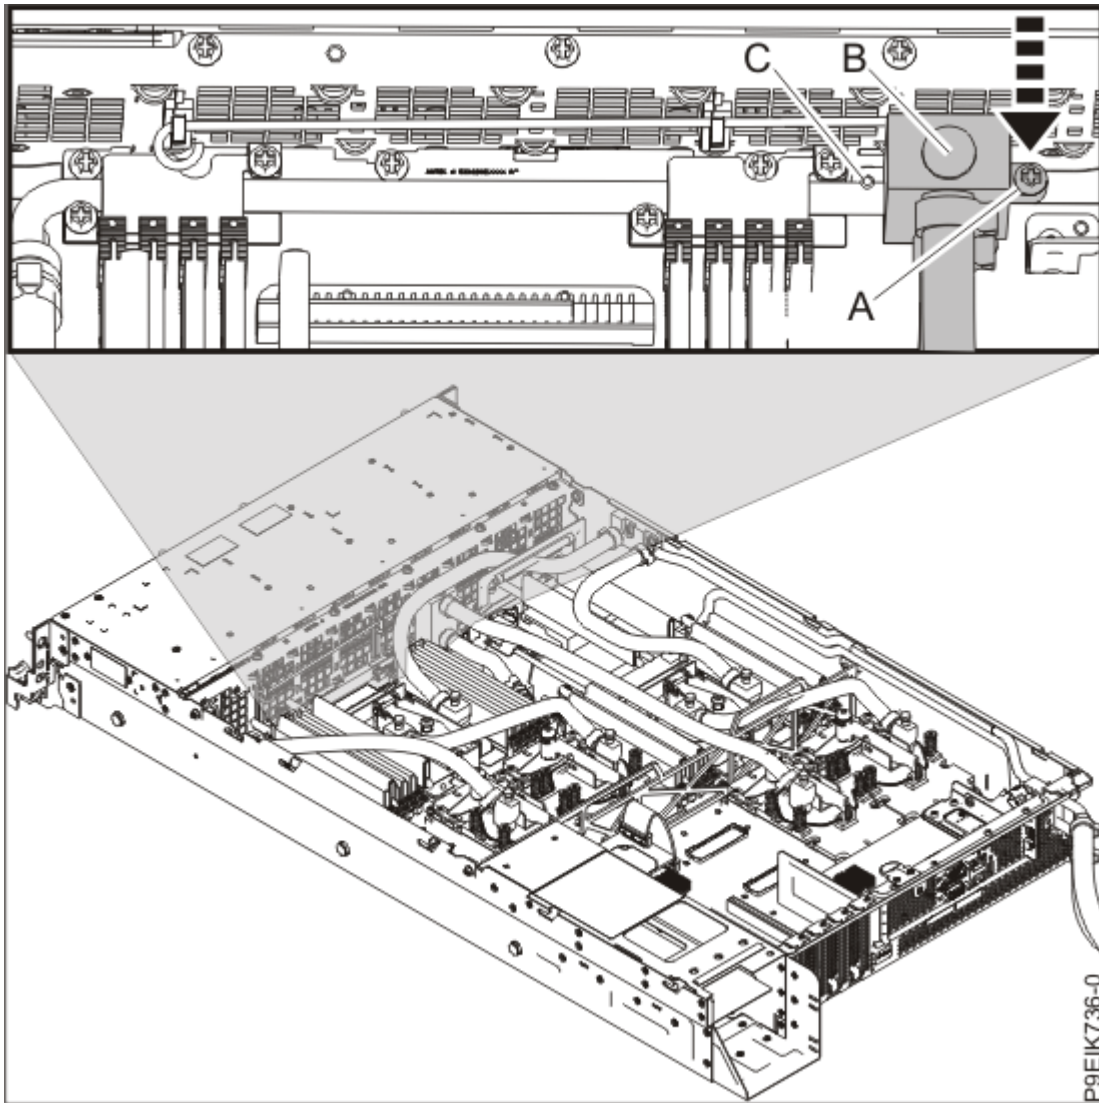

Figure 56. Replacing the front pipe screw
9. Replace the front pipe **(B)**. Use the alignment pin **(C)** to position the front pipe. Tighten the screw **(A)** that secures the pipe **(B)** to the front of the system as shown in Figure 56 on page 58.